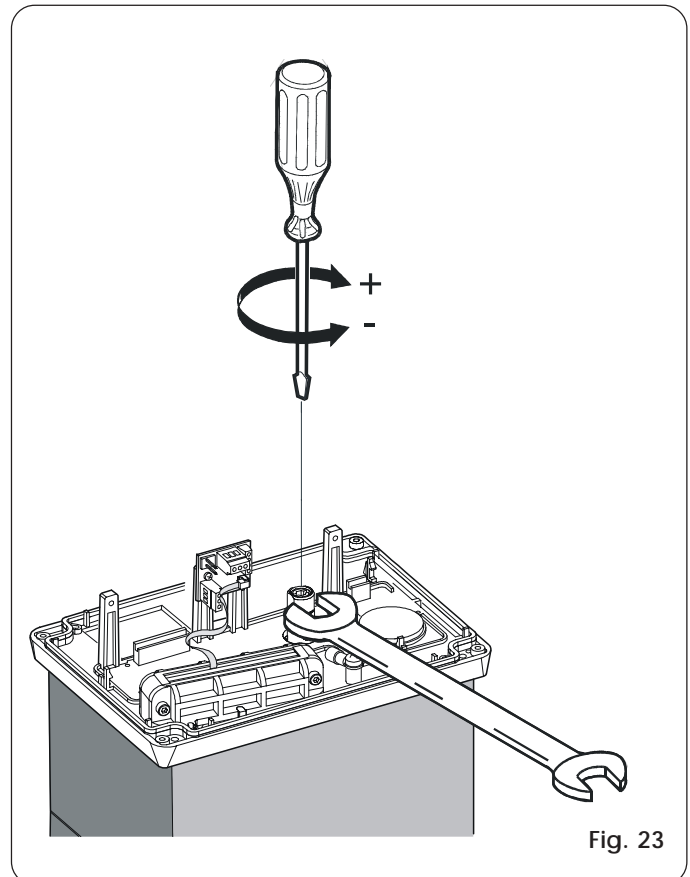

Fig. 23
- 2) Keep the motor shaft locked with a wrench, and turn the clutch adjustment screw with an Allen wrench or screwdriver (Fig. 23).